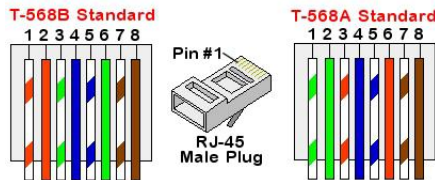

Figure 32: Standard cable wiring
- c. Insert the eight wires into an RJ45 connector, as described in *Figure 32*
7. For the switch/router side, use a pre-crimped cable or use a crimping tool to prepare an RJ45 communication connector: Insert the eight wires into the RJ45 connector in the same order as above (*Figure 32*).